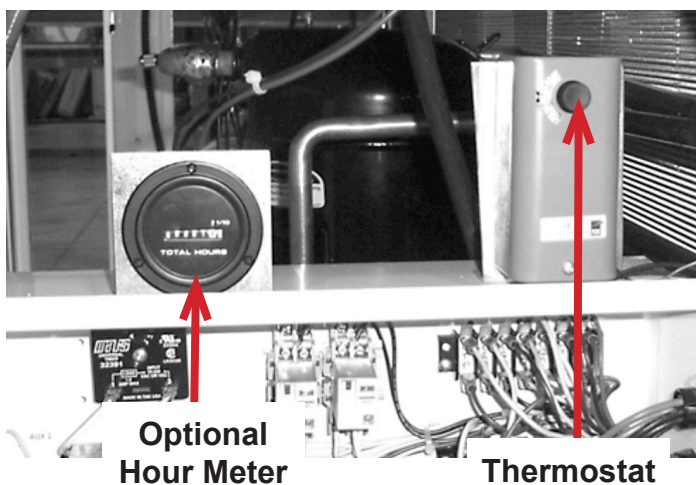

Figure 3 - Thermostat
2. Set the thermostat settings on the Penn A28 thermostat (see Figure 3 – Thermostat) to the desired temperature setting. Turn the Temperature dial to the desired temperature setting.